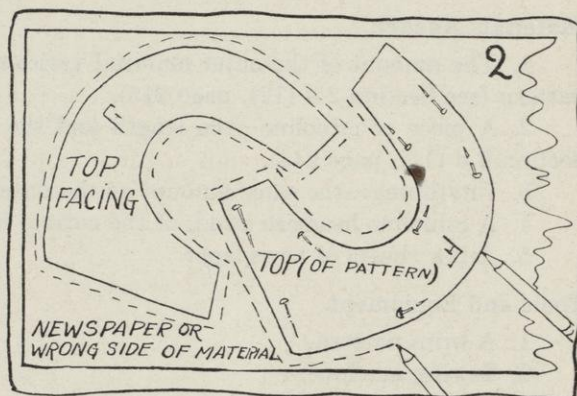

FIG. 2.
- d. Pull the thread up as tight as you possibly can, and fasten it very firmly, by overcasting as tight as possible in the selvage at the top of the last three pieces of ribbon (see Figure 2 C).
PRECAUTION I. If in the model you have selected, the right side of the brim is different from the left side, you must be sure to reverse your pattern in laying it on the second time, that is, turn your pattern upside down (see Figure 2).
- (7) In order to plan for the under facing remove the pattern from the paper, and place it on the paper again so that the under side of the pattern is against the paper. In planning an under facing on the wrong side of the material, the part of the pattern marked "top" must always be seen. One facing sometimes just fits inside of the other. Place the pattern, the second time, in such a way as to use as little material as possible. The front of the brim should be placed where the material is bias. Be sure to leave enough space between the two facings to allow $\frac{1}{2}$ inch for seams on the second one, as you did on the first facing (see Figure 2).
- (8) Trace all around the pattern and put dotted lines around, as shown in Sections (4) and (5) (see Figure 2).